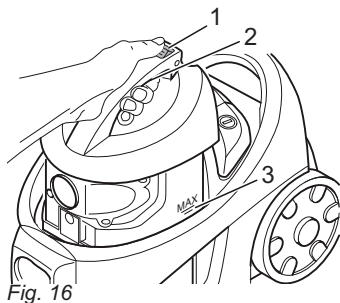

Fig. 16
■ Empty the dust container at the latest when the dust container level indicator (Fig. 1/18) lights up or the "Max" mark (Fig. 16/3) has been reached.
The locking mechanism (Fig. 16/2) in the carry handle prevents inadvertently releasing the dust container when transporting the appliance. If you remove the dust container, the release button must not be depressed.
2. Press the release button (Fig. 16/1) and lift the dust container up and out of the vacuum cleaner.